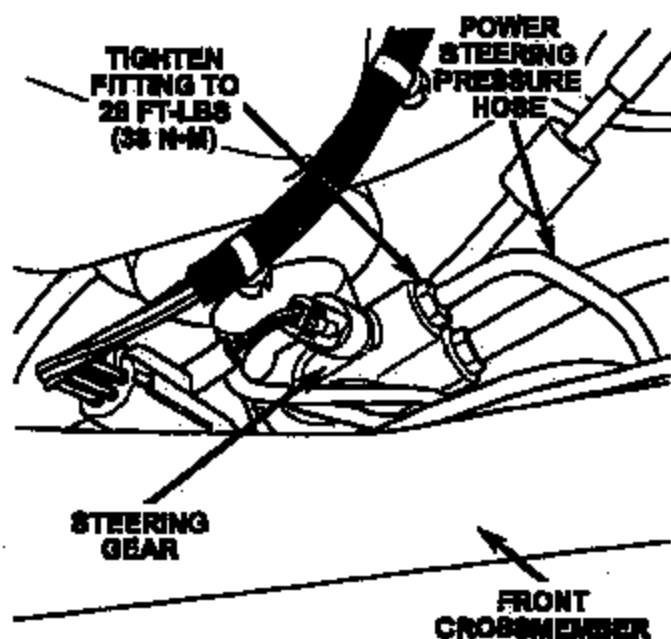

Figure 8
11. Disconnect the power steering pressure hose from the steering gear and drain the fluid (Figure 8).
24. Loosely connect the power steering hose to the steering gear (Figure 8).
26. While keeping the hose in position, tighten the power steering hose-to-steering gear connection to 28 ft-lbs (38 N·m) (Figure 8).
31. Turn the steering wheel from lock-to-lock twenty (20) times.
34. Turn the steering wheel from lock-to-lock eight (8) more times.